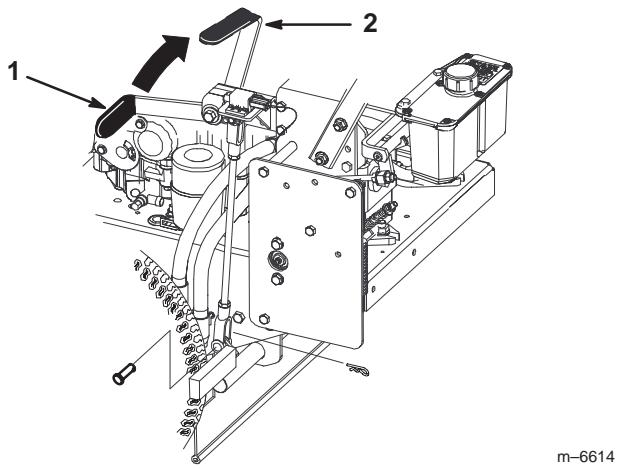

Figure 14
- Pull the brake handle rearward (Fig. 14).
- Push the brake handle forward (Fig. 14).